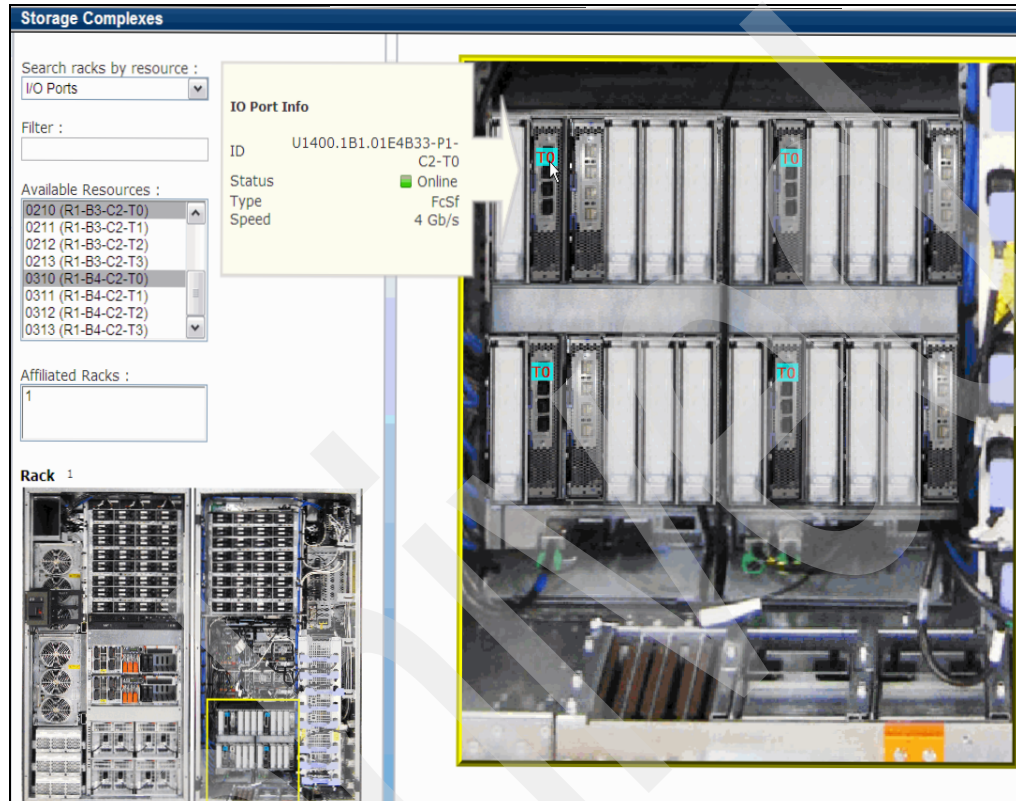

Figure 13-82 View I/O ports
8. Another very useful function in the Hardware Explorer GUI section is the ability to identify the physical location of each FCP or FICON port. Change the search criteria to **I/O Ports** and select one or more ports in the Available Resources section. Use your mouse to move the yellow box in the rack image to the rear DS8700 view (bottom pane), where the I/O ports are located (see Figure 13-82).